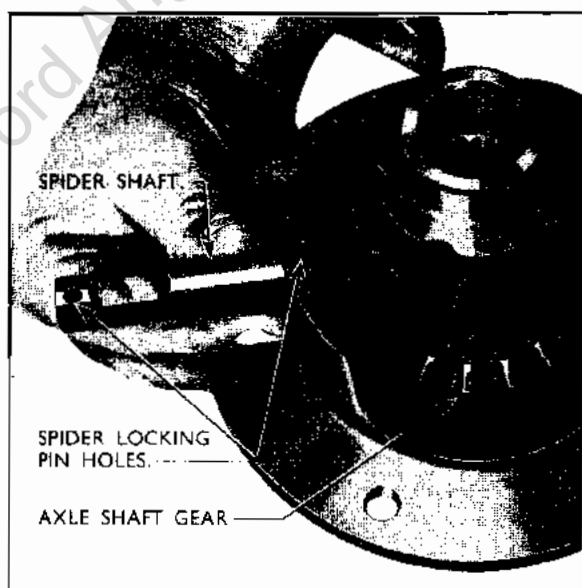

Fig. 10
3. Slacken the differential cap bolts and then using the spanner (Tool No. P.4079) back off the differential bearing adjusting nuts. Remove the differential bearing cap bolts and lockwashers and carefully detach the bearing caps (see Fig. 10).
3. Check that the thrust washers are not misplaced and, taking care that the hole in the spider shaft lines up with the locking pin hole in the differential case enter the shaft into the gears and push it right home (see Fig. 10).